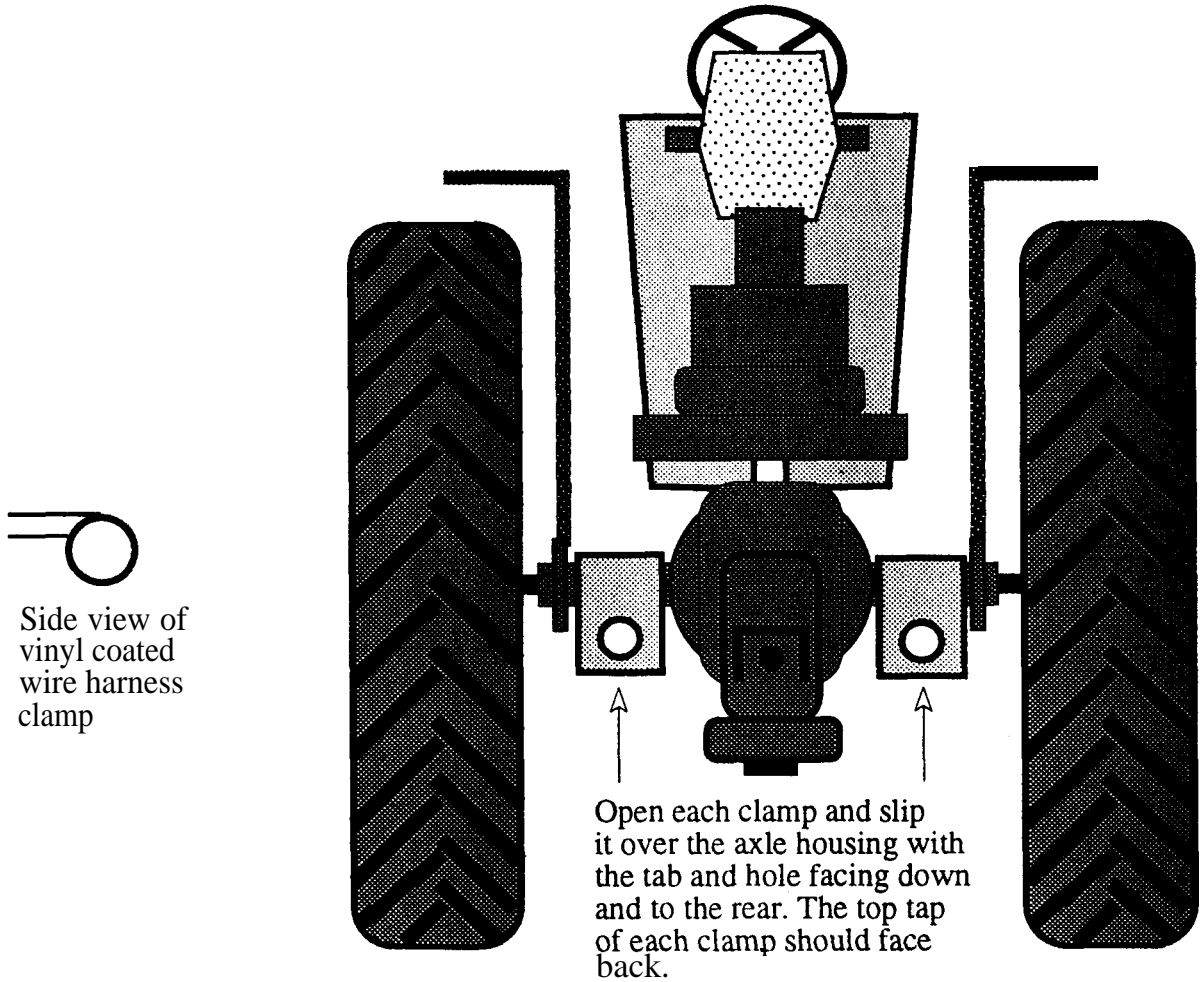

Figure 3: Positioning vinyl coated wire harness clamps on the axle housing
2. If you decide to use one model tractor and a retrofit model ROPS, attach two 1/2 inch diameter vinyl coated steel wire harness clamps to the model tractor rear axle, placing each clamp between the fender and the tractor body as shown in Figure 3. These clamps can be purchased in nearly any automotive, hardware, or electrical supply store.